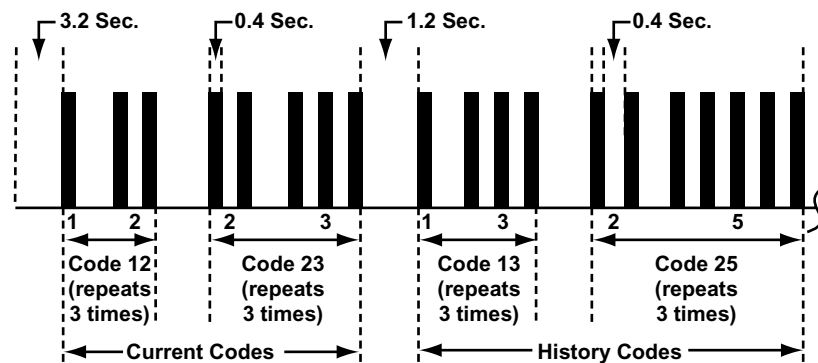

Figure 10-26 Isuzu ABS Code Type 05a
- Type 05a, see Figure 10-26 and Table 10-7 on page 113